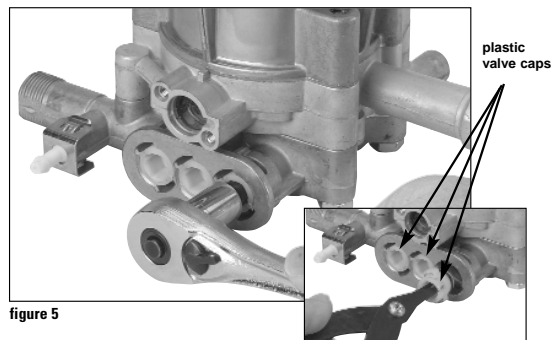

figure 5
1. Remove valve plate by tapping plate with screwdriver and hammer. (figure 5)
2. Remove 3 plastic valve caps. (figure 5 inset)